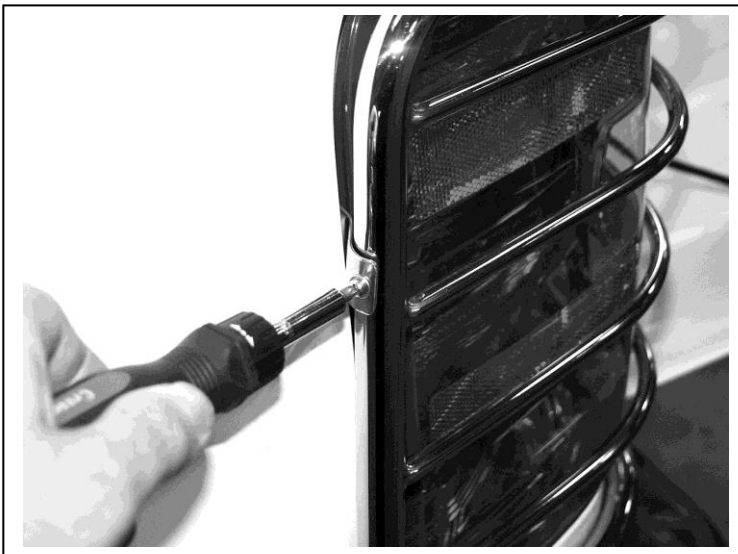

FIG. 4
5. Install one of the furnished 4mm screws through the front bracket installed in step two and into the threaded insert in guard and tighten down. (Fig 4)